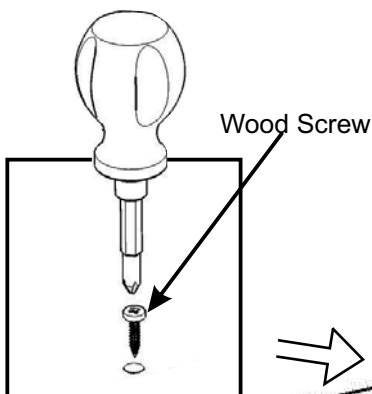

Figure 3
Attach Table Slides (F) to the unit using Head Cap Bolts, Spring Washers(Small) and Flat Washers(Small). Tighten Wood Screws (see Figure 3).
Disengage the locks by turning their handles counter-clockwise $\frac{1}{4}$ turn (see Figure 3).
(Figure 3)